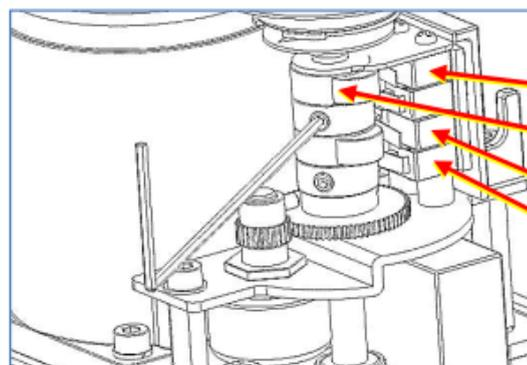

Figure 2: Open Cam Setting
- Rotate the OPEN cam CCW until the limit switch 'clicks' (see Figure 2 below)